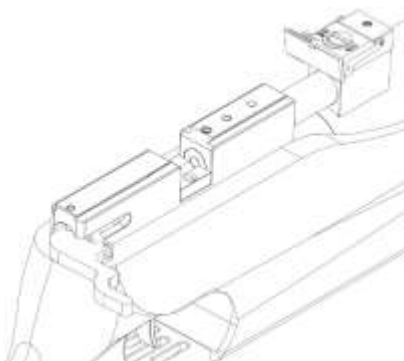

Fig.4
- Screw the adapter (A) on the valve of the compressed-air bottle.
- Screw the AIR CYLINDER (B) on the adapter (A) attached to the valve of the compressed-air bottle.
- Open the lever to reach the full rear position (Fig.4)
The lever will remain open when it reaches the full rear position (Fig.4), the trigger mechanism will be engaged.